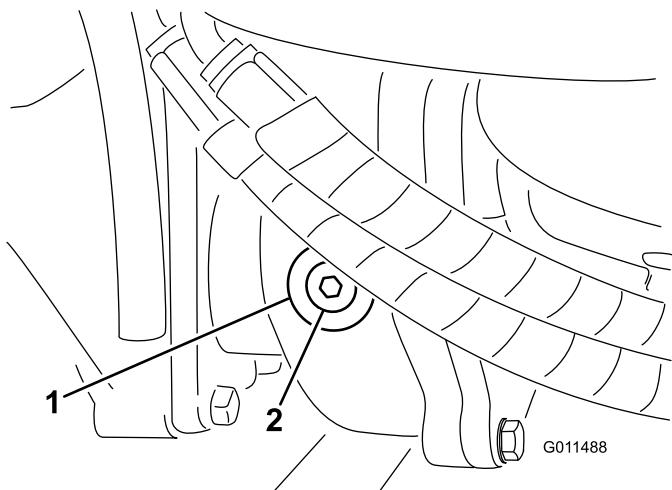

Figure 67
2. Remove the check/fill plug from the left side of the gear box and ensure that lubricant is up to the bottom of the hole (Figure 67).